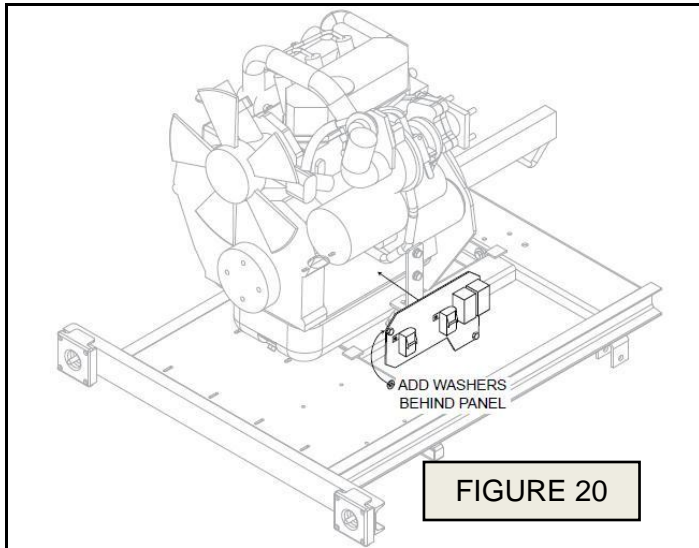

FIGURE 20
6. Perkins Engine Only: Reinstall relay/fuse panel over rear engine mount. Insert washers as required (See FIGURE 20) to allow more space between panel and engine.